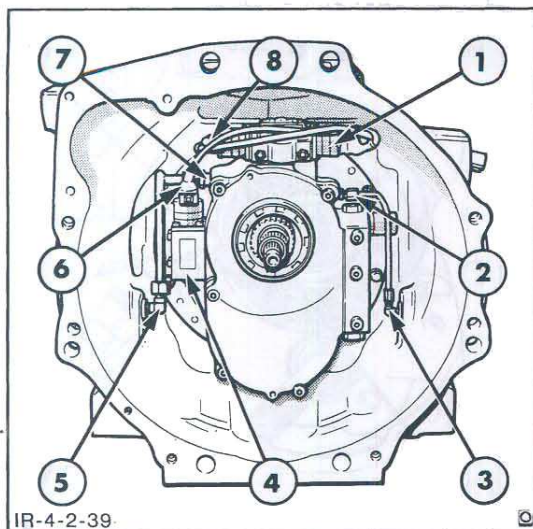

Figure 39
1. Disconnect the oil cooler return pipe and elbow at the transmission case, Figure 39. Disconnect the return pipe at the oil distributor housing and remove the pipe from the transmission case.
2. Disconnect the pressure test port feed pipe and elbow at the transmission case. Disconnect the feed pipe at the oil distributor housing and remove the pipe from the transmission case, Figure 39.